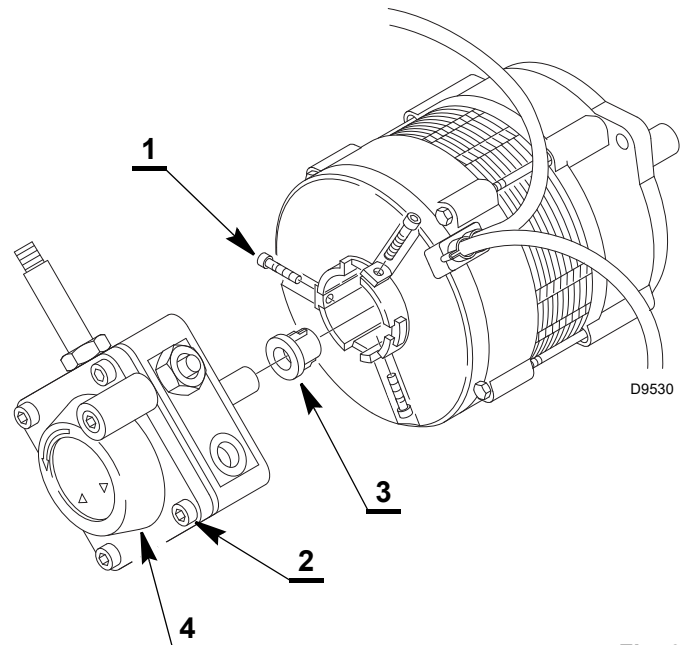

Fig. 6
- block the pump by uniformly tightening the 3 screws 1) (Fig. 6) - recommended tightening torque 3 ± 0.3 Nm.
- loosen and remove the 4 fixing screws 2) (Fig. 6) of the cover 4) and check the condition of the fuel filter. If there is dirt on the inner surface of the pump body, cover or filter, then the fuel tank and relative piping are probably contaminated. Corrective action (cleaning) is therefore necessary